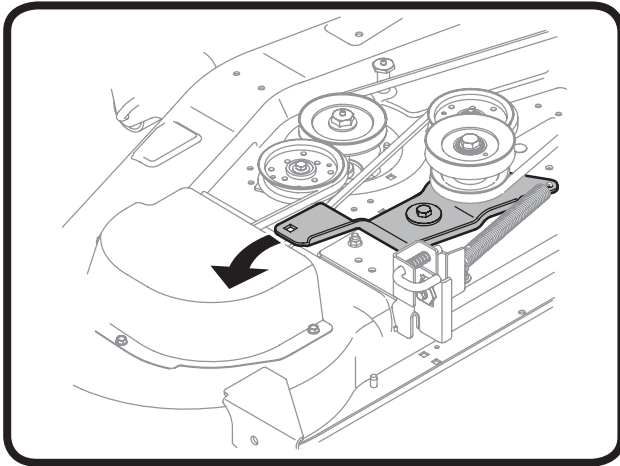

Figure 8.7
1. Insert a 1/2" drive breaker bar into the square hole in the deck idler bracket on the left side of the deck. See Figure 8.7.